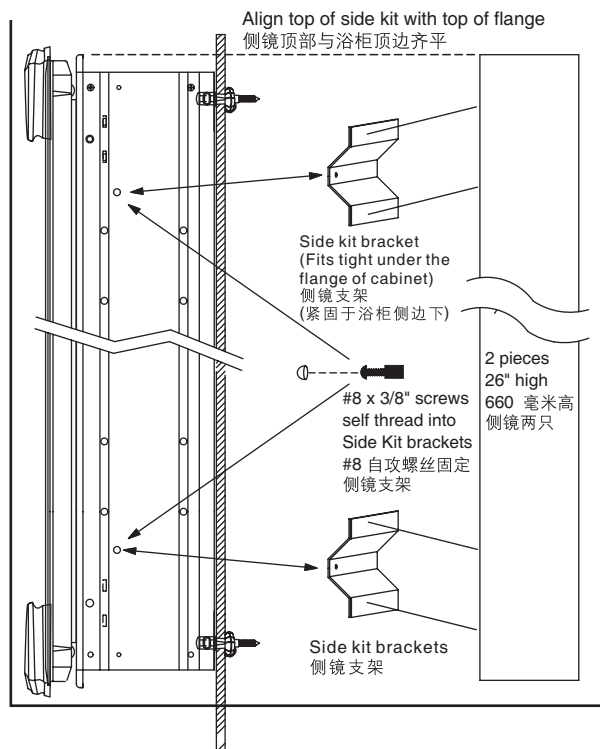

Fig. 8 图8
- B. Attach the side kit brackets to the cabinet as shown in Fig.8
- B. 如图8所示安装侧镜支架。